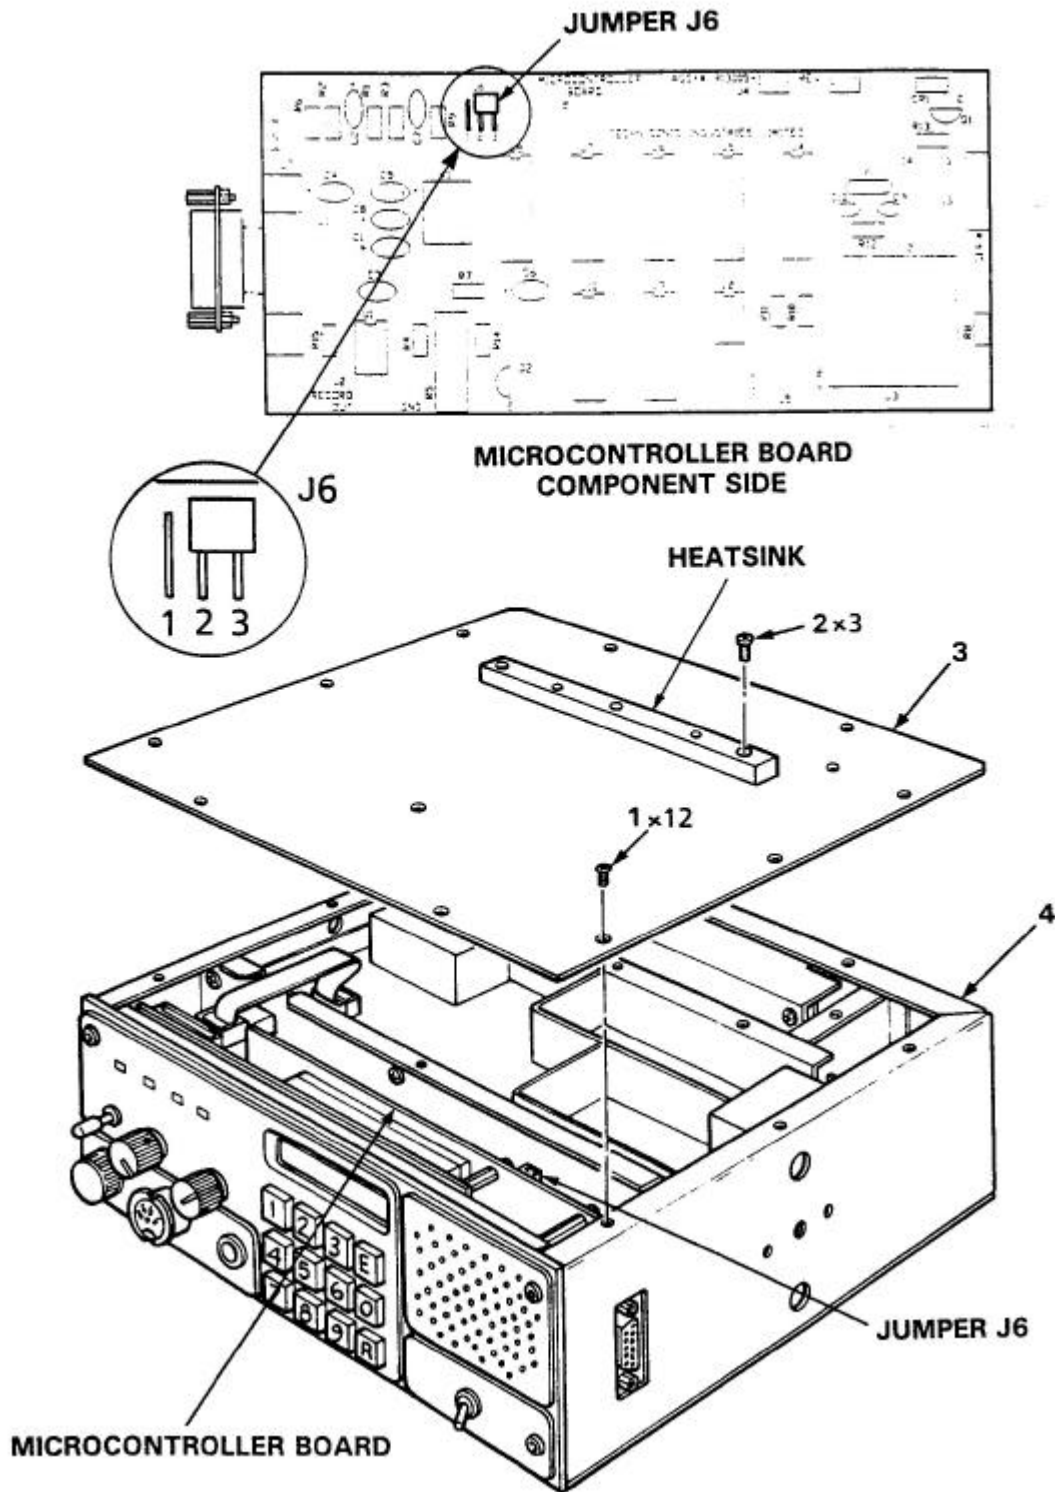

Figure 2-2 Fixed Channel Jumper Locations
Remove Cover Assembly as described in paragraph 2.1.1. Refer to Figure 2-2 for location of items indicated below.
- (1) Remove and retain 12 flathead screws (1) and 3 Panhead screws (2) securing transceiver top cover (3) to chassis (4). Refer to Figure 2-2.
- (2) Position Jumper J6 on pin 1 and pin 2 to disable keyboard entry of frequency selection and lock operating configuration.
- (3) Position Jumper J6 on pin 2 and pin 3 to enable keypad frequency selection and unlock operating configuration.